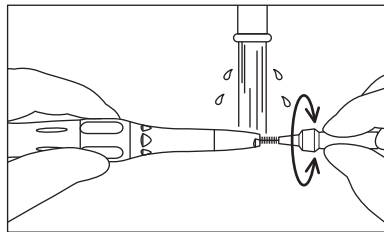

Fig. 12
- 2) Clean the interior cavity of the handpiece for 15 seconds or more, using an interdental brush (wire thickness 0.7mm) that conforms to size 4 in ISO 16409. (Fig. 12)